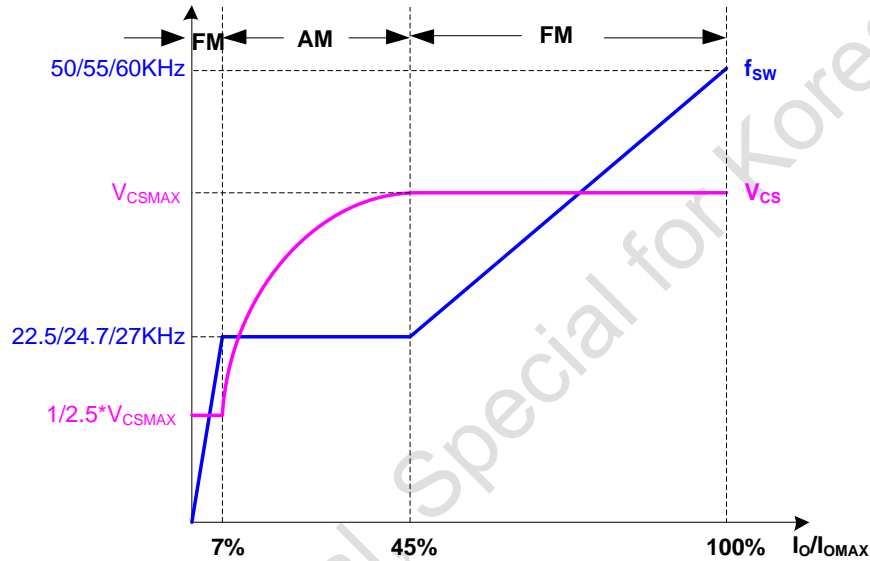

Figure 5. Segment Peak Current and Operating Frequency at CV Mode
In order to avoid audible noise issue, GP4504 uses 3-segment primary peak current control method at constant voltage (CV) mode, the current sense threshold voltage is multiple segments with different loading, as shown in Figure 5, which are  $V_{CS\_H}$  for high load, varied  $V_{CS\_M}$  for medium load and  $V_{CS\_L}$  for light load. In no load and ultra light load condition (NL mode), the current reference is also  $V_{CS\_L}$ . But the operation in NL mode is different, which will be described in next section.